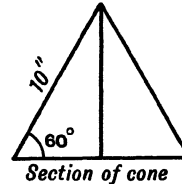

FIG. 97
6. The angle between the slant face of a cone and its circular base is 60° . The slant height is 10 in. Find the vertical height of the cone, Fig. 97.